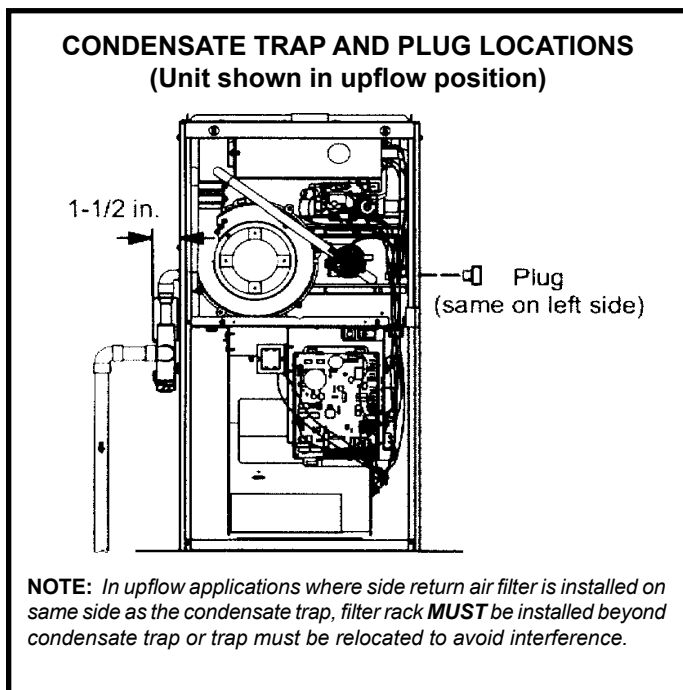

Figure 31
2. Use a 1/2" ratchet drive or flat blade screw driver and remove plug (Figure 31) from the cold end header box at the appropriate location on the side of the unit. Install field-provided 3/4 NPT male fitting into cold end header box. Use Teflon tape or appropriate pipe dope.